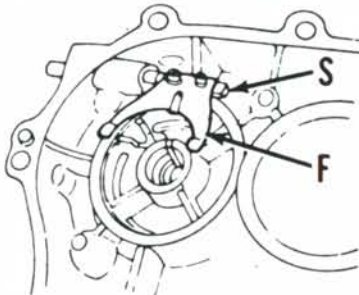

Fig. Y2-17—Install governor fork (F) on governor shaft (S) of MF260 models with pads on fork ends towards camshaft.
The governor weights, spring and actuating collar are mounted on camshaft as shown in Fig. Y2-16. Nine governor weights are held by governor spring on MF260 models while only four weights are used on MF180 models. Be sure collar properly engages groove (G) in weights (W). Install governor fork (F—Fig. Y2-17) on governor shaft (S) of MF260 models so pads on fork ends are towards camshaft.